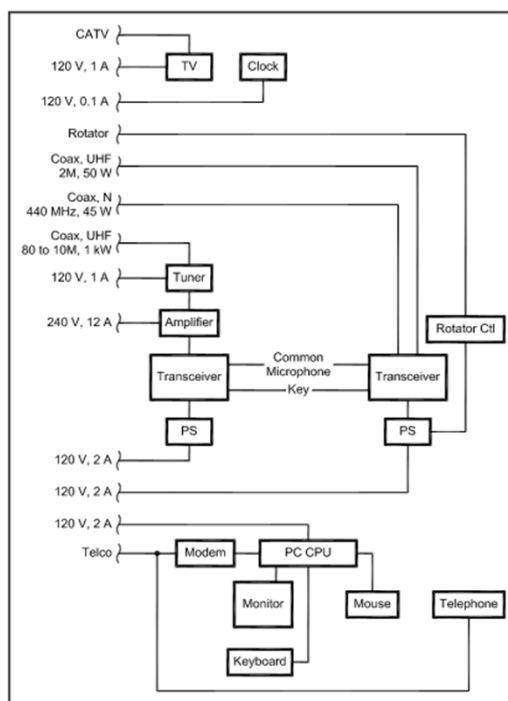

Figure 5—Block diagram of a typical more-complex radio station.
- Figure 5 shows a typical amateur station